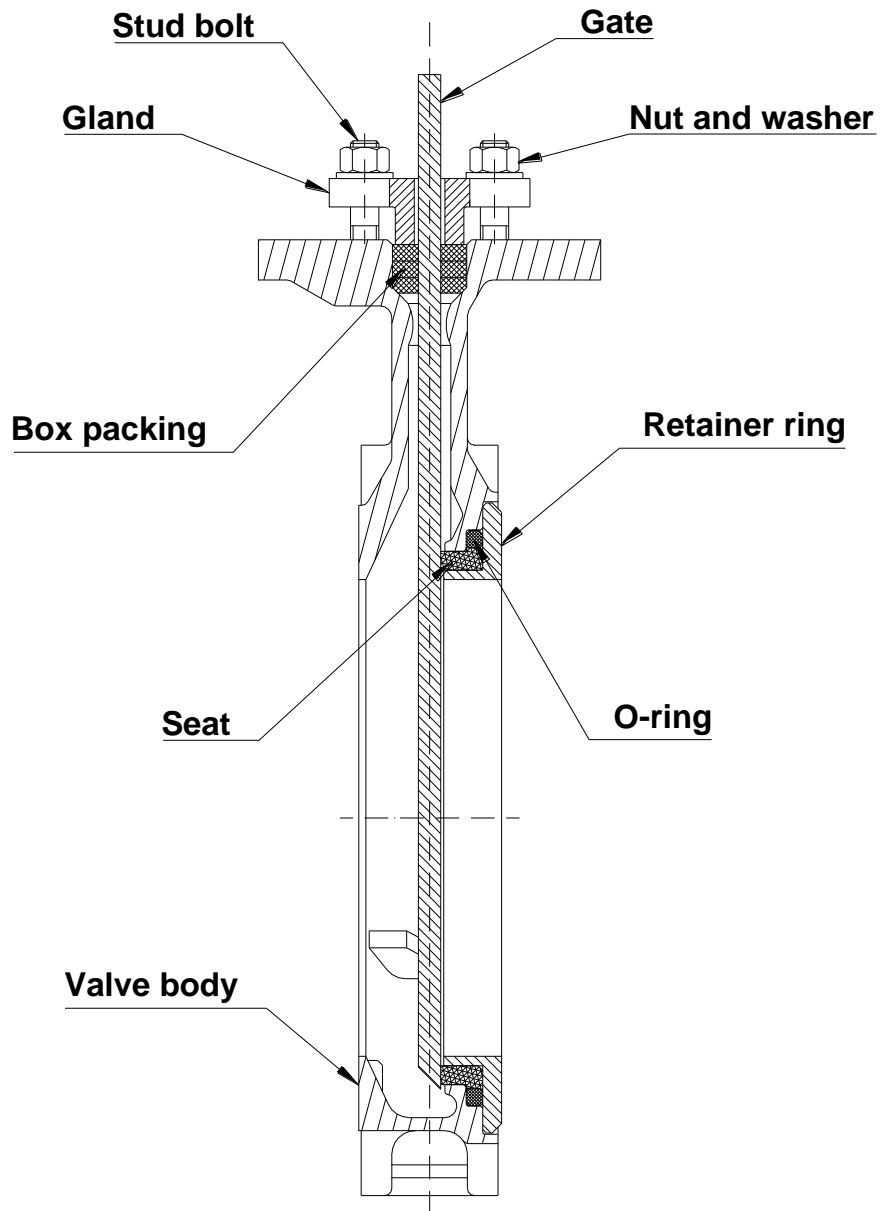

Figure 1
See figure 1 and 2 for identification of the parts in the TV knife gate valve.
3. Loosen the nuts (5b) keeping the yoke (2) in place.
4. Lift off the bearing (2c), bearing washer (2b), yoke (2), bearing washer (2b), bearing (2a) from the stem (3).
5. Demount the beams (7) and tie rods (5).
6. Loosen the screw (4b) from the stem nut (4) and gate (6).
7. Lift off the stem (3) and stem nut (4).
8. Loosen the nuts (8c) on the gland (8).
9. Lift of the gland (8) from the stud bolts (8a).
10. Remove the box packing braids (9).
12. Remove the gate (6) and check it for damages such as dents and scrapes. If the gate is damaged it can wear out the box packing (9) and the seat (13), causing leakage. Stafsjö recommends changing the gate if it is damaged to ensure the function of the valve.
13. Install the gate (6) in the valve body (10). Check that the gate is placed correctly with the gate chamfer on the cams in the bottom of the valve body, see fig. 1.
14. Start the installation of the first braid (9) on one of the long sides of the gate (6). Use a blunt tool in plastic or wood and a hammer to push the braid into the box. Where the braid ends meet, check that the short ends are opposite each other, not on top of each other. It is important to push the first braid evenly into the bottom of the box. The joint of the second braid must be placed on the opposite long side of the joint of the first braid.
15. Place the gland (8) on the stud bolts (8a).
17. Put pressure on the gland (8) by tightening the nuts (8c) gradually and crosswise. The box packing must be equally compressed all around. Recommended torque for gland nuts, see chapter D.
18. The gland (8) must put uniform pressure on the box packing (9) and be in level with the top of the valve body (10).
19. The gland (8) must also be in line with the gate (6) with the same distance between the gland and the gate all around. Check that there is no metal contact between the gland (8) and the gate (6).
1. Open the valve making a distance between the gland (8) and the stem nut (4).
2. Loosen the nuts (8c) on the gland (8).
3. Lift the gland (8) and connect it to the stem nut (4) with a wire to be able to reach into the box packing (9).
4. Remove the box packing braids (9).
6. Check the gate (6) visually for damages such as dents and scrapes. If the gate is damaged it can wear out the box packing (9) and the seat (13), causing leakage. Stafsjö recommends changing the gate if it is damaged to ensure the function of the valve.
7. Start the installation of the first braid (9) on one of the long sides of the gate (6). Use a blunt tool in plastic or wood and a hammer to push the braid into the box. Where the braid ends meet, check that the short ends are opposite each other, not on top of each other. It is important to push the first braid evenly into the bottom of the box. The joint of the second braid must be placed on the opposite long side of the joint of the first braid.
8. Let down the gland (8) on the stud bolts (8a).
10. Close the valve. Adjust the gate (6) and centre it in the box. Check that the gate chamfer is set against the cams in the bottom of the valve body, see fig. 1.
11. Put pressure on the gland (8) by tightening the nuts (8c) gradually and crosswise. The box packing must be equally compressed all around. Recommended torque for gland nuts, see chapter D.
12. The gland (8) must put uniform pressure on the box packing (9) and be in level with the top of the valve body (10).
13. The gland (8) must also be in line with the gate (6) with the same distance between the gland and the gate all around. Check that there is no metal contact between the gland (8) and the gate (6).